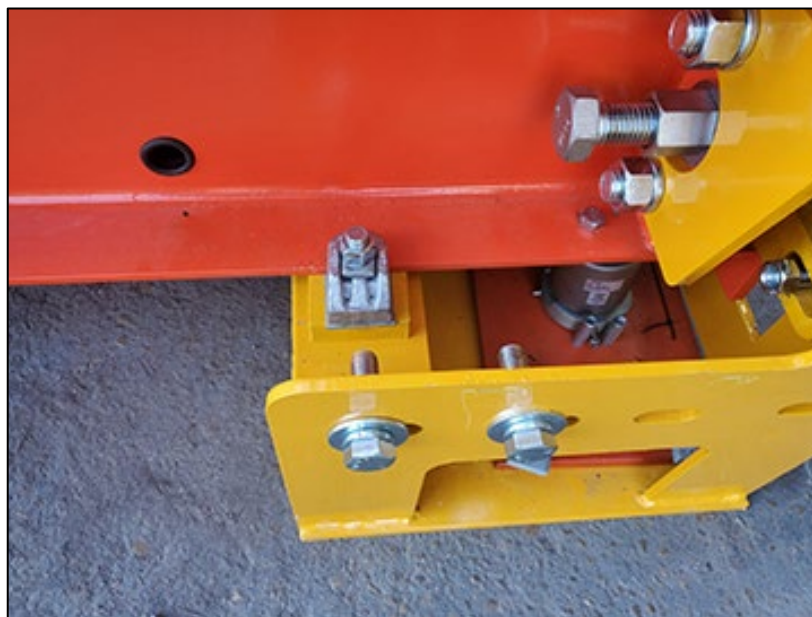

Figure 5
10. Secure shipping clamps on all sides (8 per module.) See *Figure 5*.